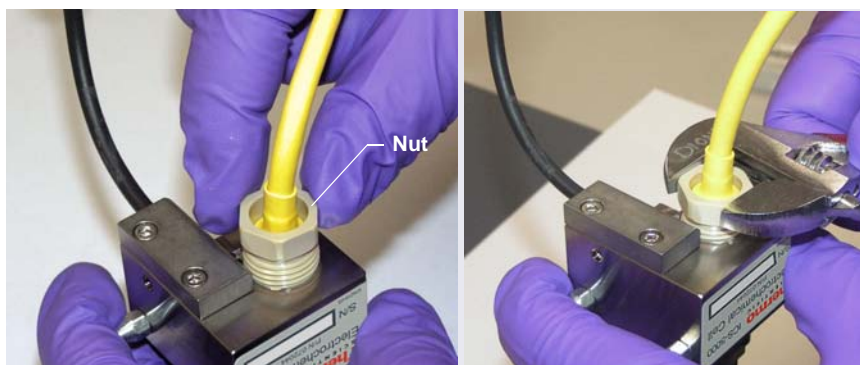

Figure B-16. *Installing the PdH Reference Electrode Nut*
5. Screw the nut on the PdH reference electrode into the reference electrode well and tighten it fingertight. Use a wrench to tighten the nut an additional 20 to 30 degrees (see Figure B-16).